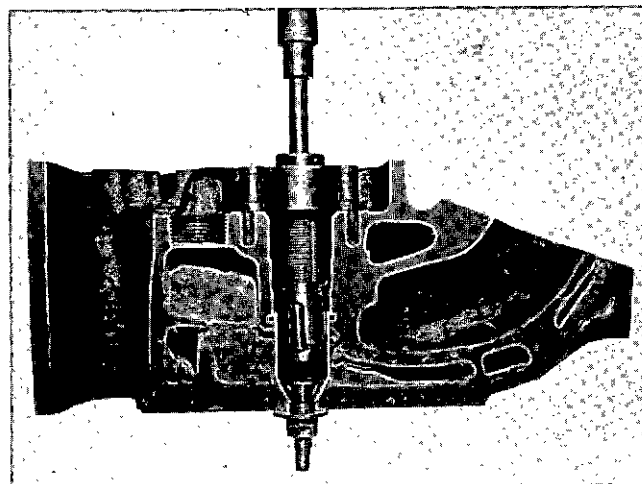

Fig. 2-2-4, V40227. Seal upper end of injector sleeve with ST-880
7. Roll top 1/2 inch [12.7000 mm] area of sleeve with ST-880 Expanding Roller. Fig. 2-2-4.